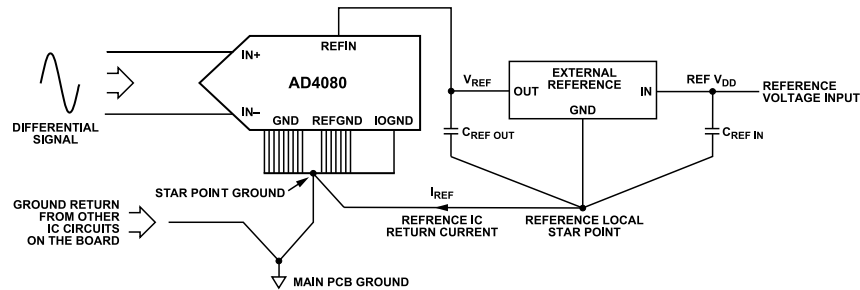

Figure 107. AD4080 External Reference Ground Connections
- ▶ Recommended connections of ground (GND), reference ground (REFGND), and digital ground (IOGND) connections are shown in Figure 107. It is recommended to not keep the current return path of the reference IC in the same current loop as the current return loop from the other circuitry on the PCB. Connect the reference local star point to the ADC star point ground on the top layer of the PCB as shown in Figure 107.